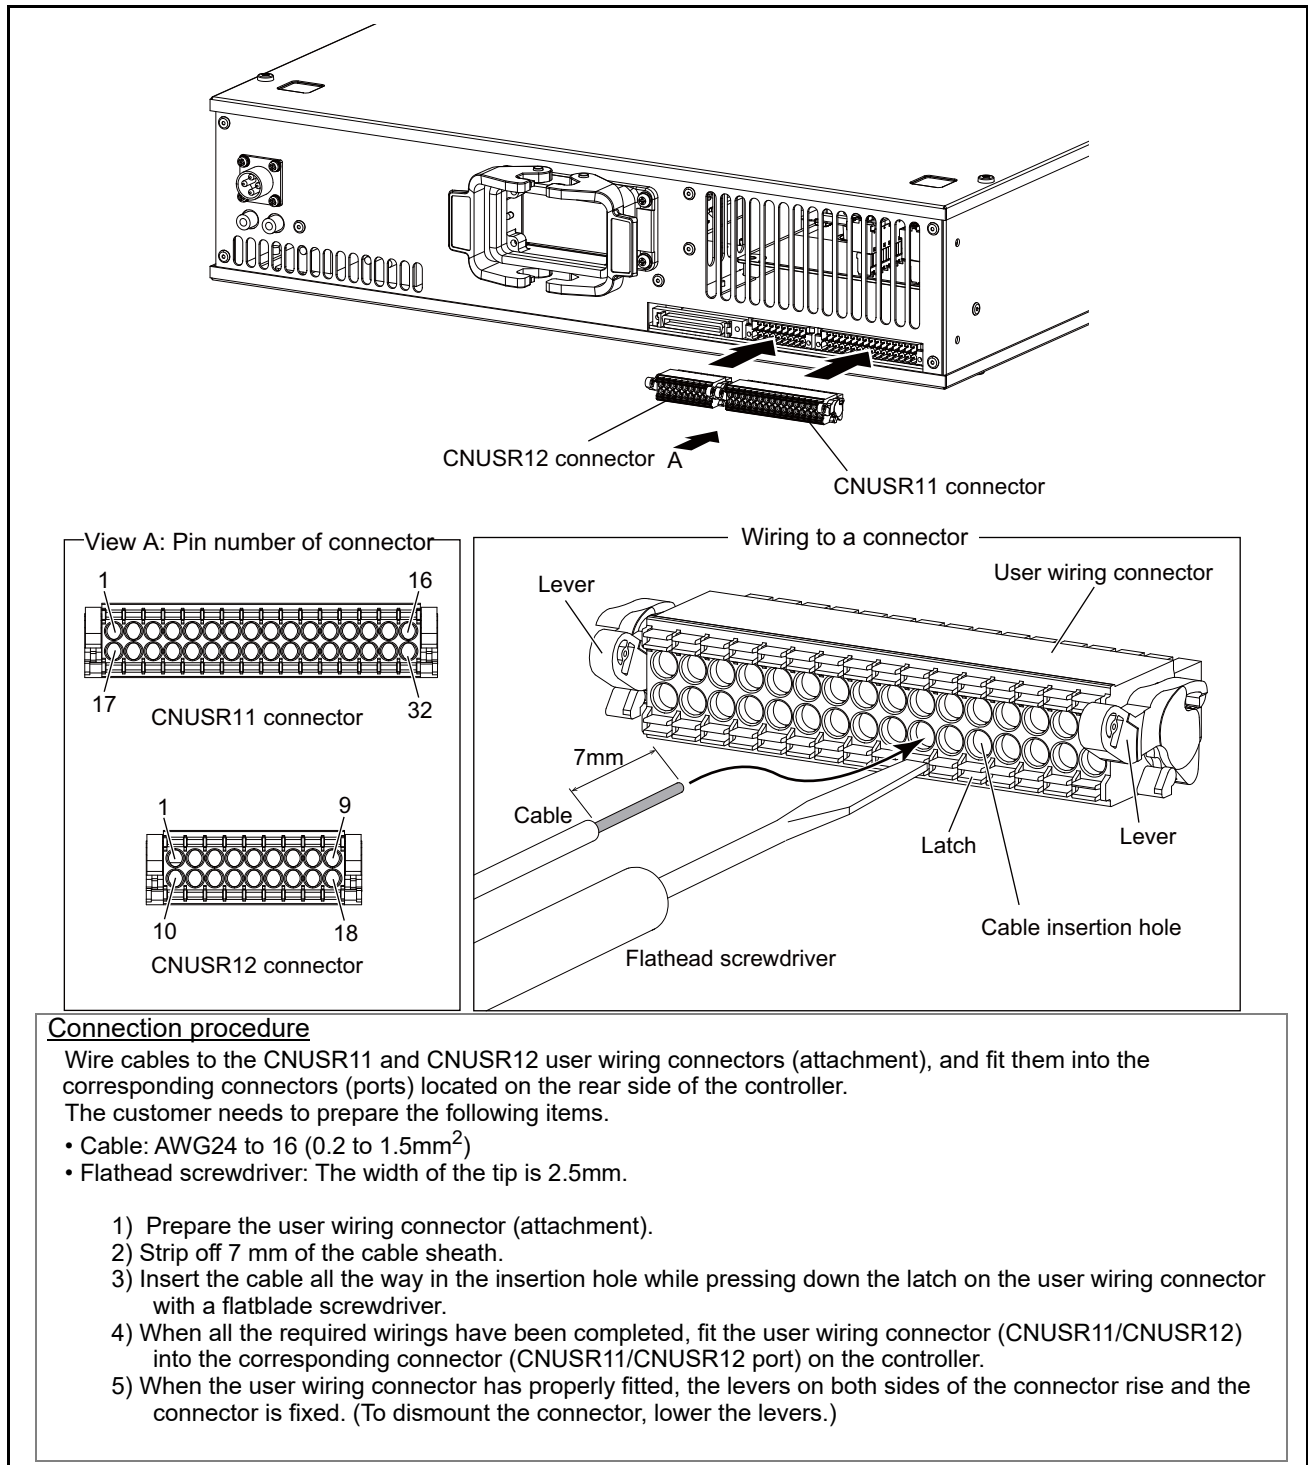

Fig.3-12: Wiring method to the user wiring connector
* Refer to Page 65 "Fig. 3-12: Wiring method to the user wiring connector" for more details about how to wire a connector.